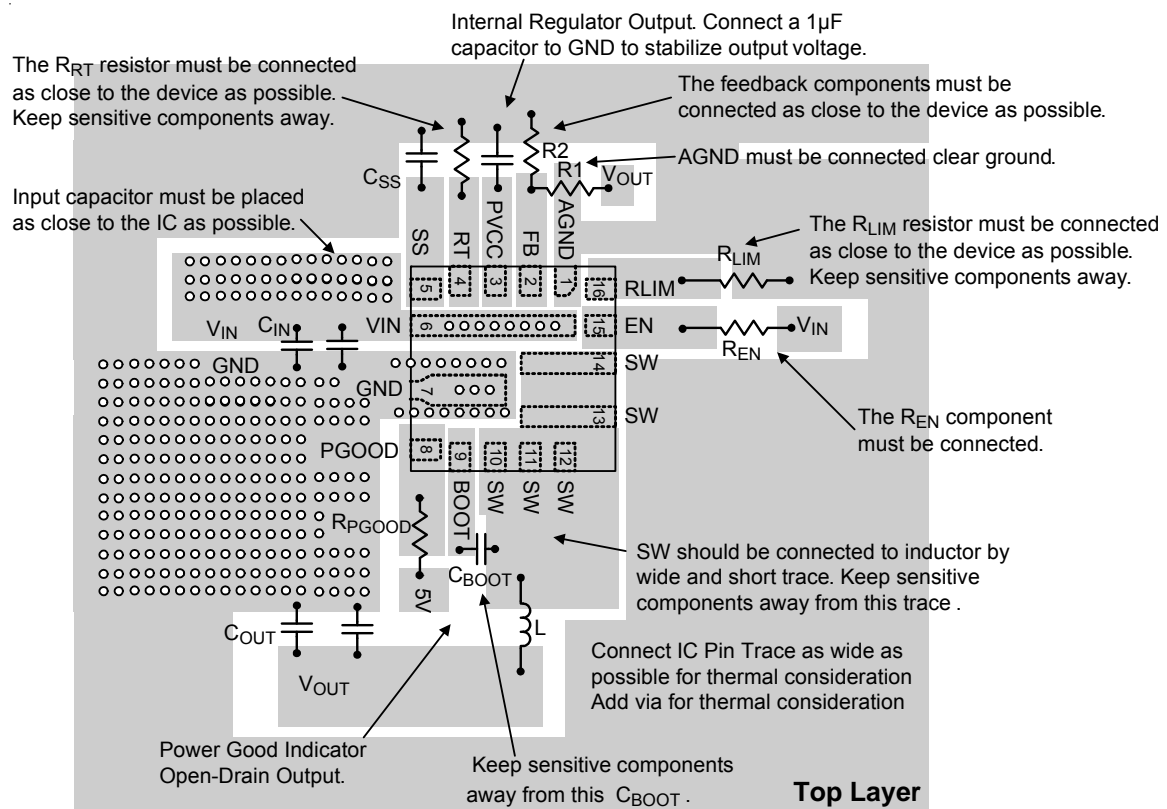
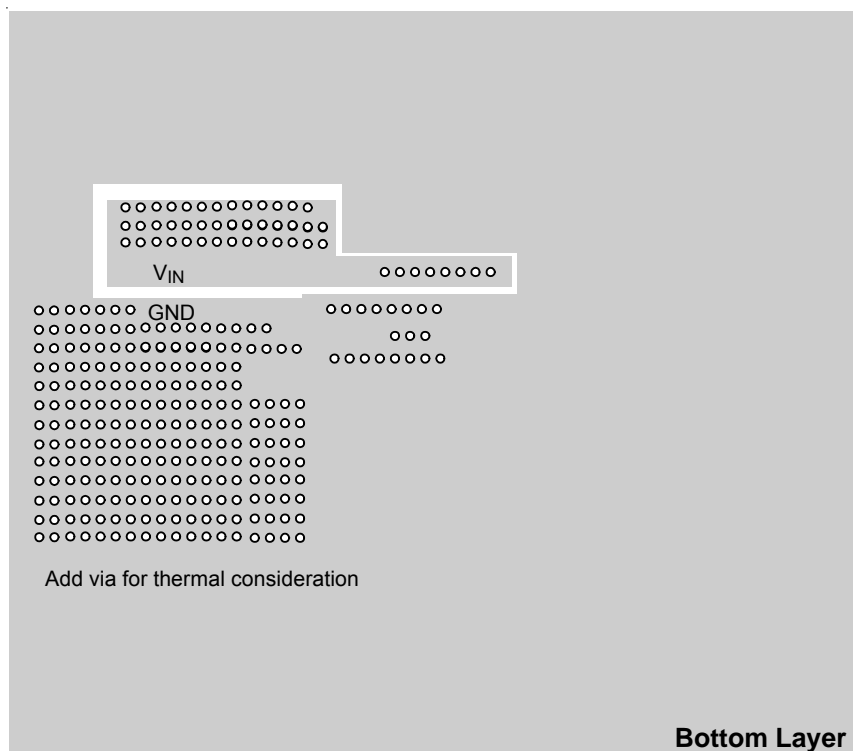

Figure 10. PCB Layout Guide (Top Layer)
Figure 11. PCB Layout Guide (Bottom Layer)
- ▶ An example of PCB layout guide is shown in Figure 10 and Figure 11 for reference.